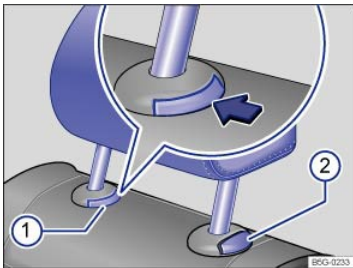
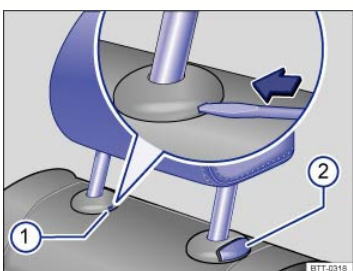

Fig. 47 Removing the rear head restraint (version A).
Fig. 48 Removing the rear head restraint (version B).
- Push button ⇒ Fig. 47① in the direction of the arrow and hold it in this position.
- At the same time press button ② while a second person pulls out the head restraint completely.
- If necessary, press the flat blade of the screwdriver from the vehicle tool kit into the slit of the trim cap ⇒ *Fig. 48*② in the direction of the arrow and hold it in this position.
- Push the head restraint down while pressing button ⇒ *Fig. 47*② or ⇒ *Fig. 48*②.